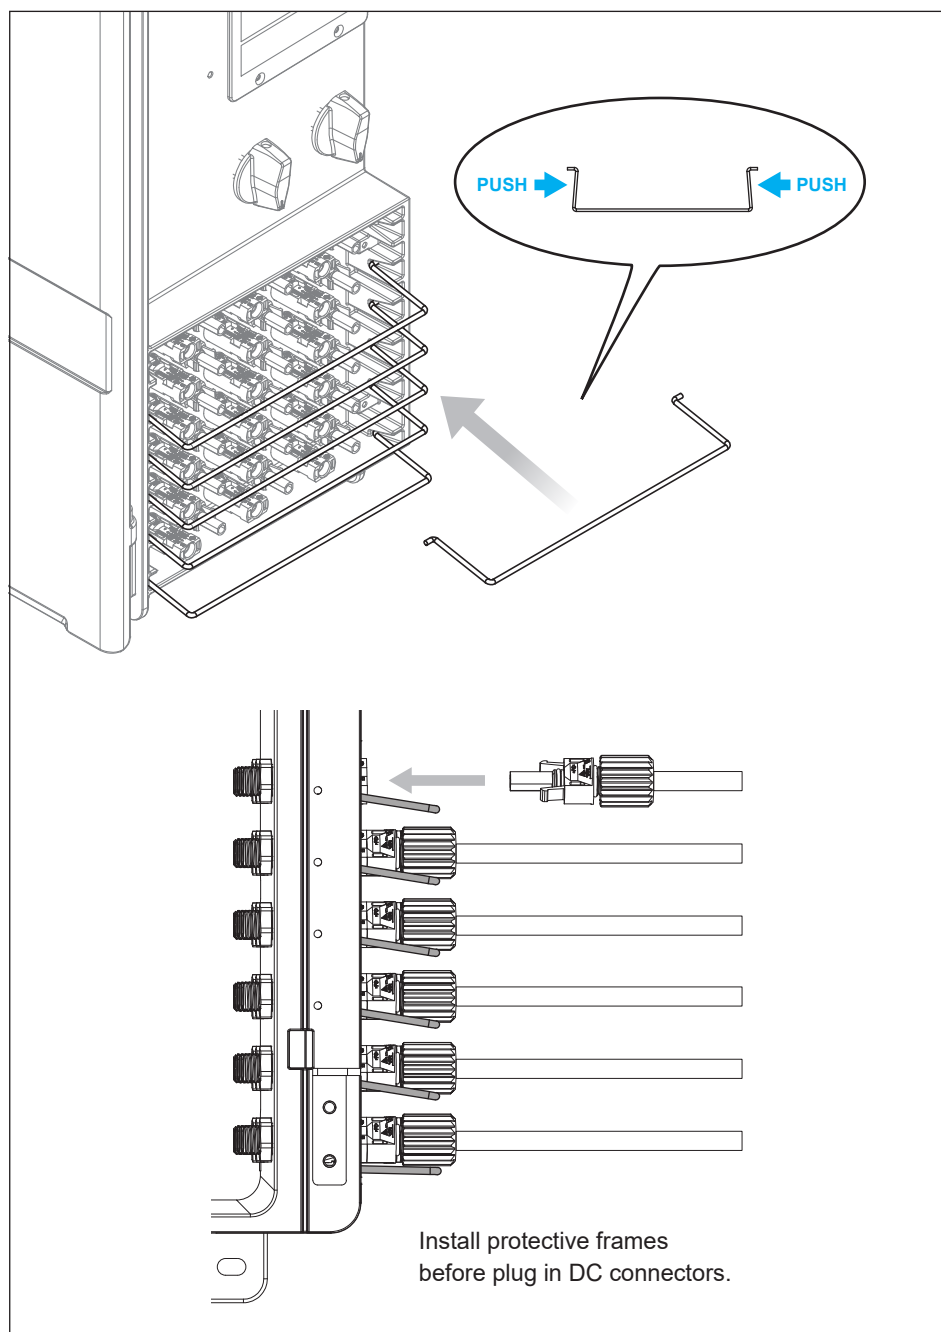

Figure 3-19: Installation methods for protective frame
- After DC Wiring installing, insert the protective frame for DC connector and the method is shown in **Figure 3-19**.